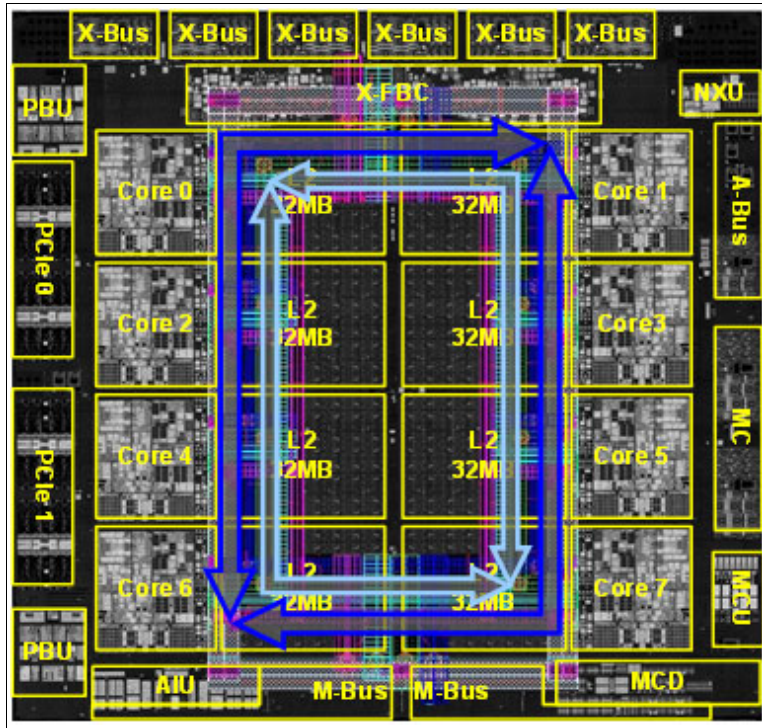

Figure 9-2 PU chip structure (with bidirectional ring shown)
- ▶ Each core has private L1 (instruction and data) caches and a semi-private L2 cache, which are 32 MB. The eight cores and L2 caches on the chip communicate through bidirectional high-speed on-chip ring and with all SMP, I/O, and memory interfaces (see Figure 9-2 on page 385).